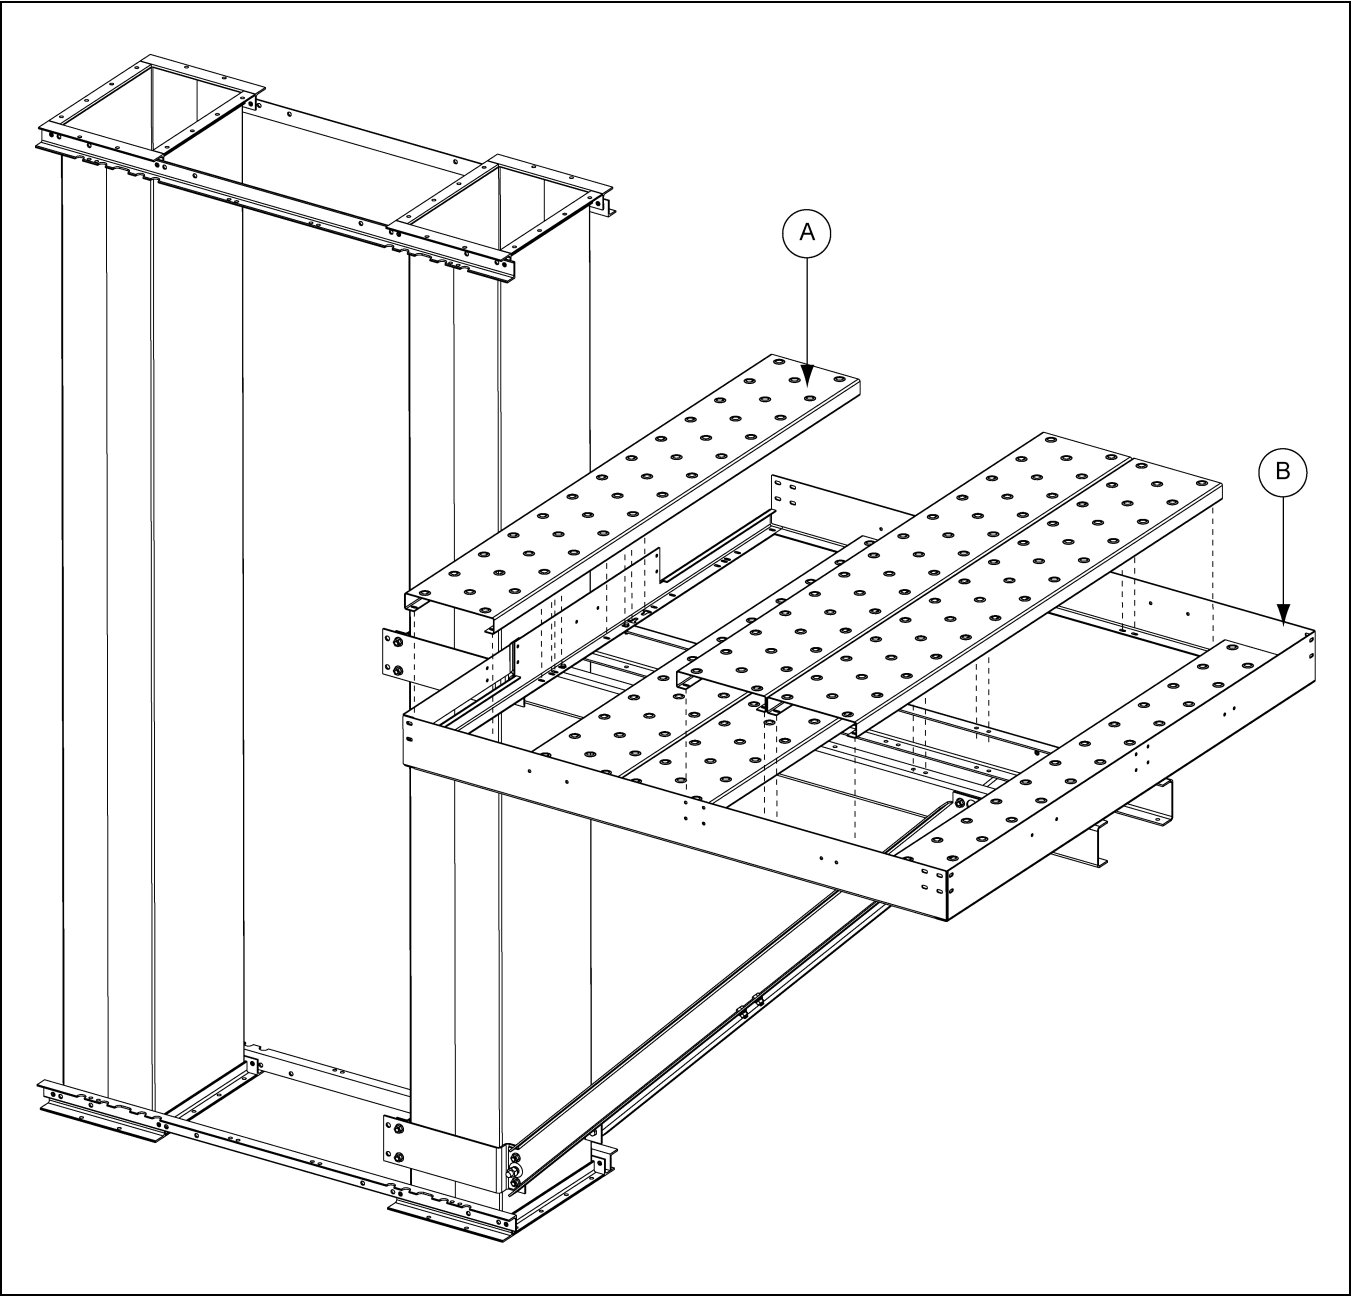
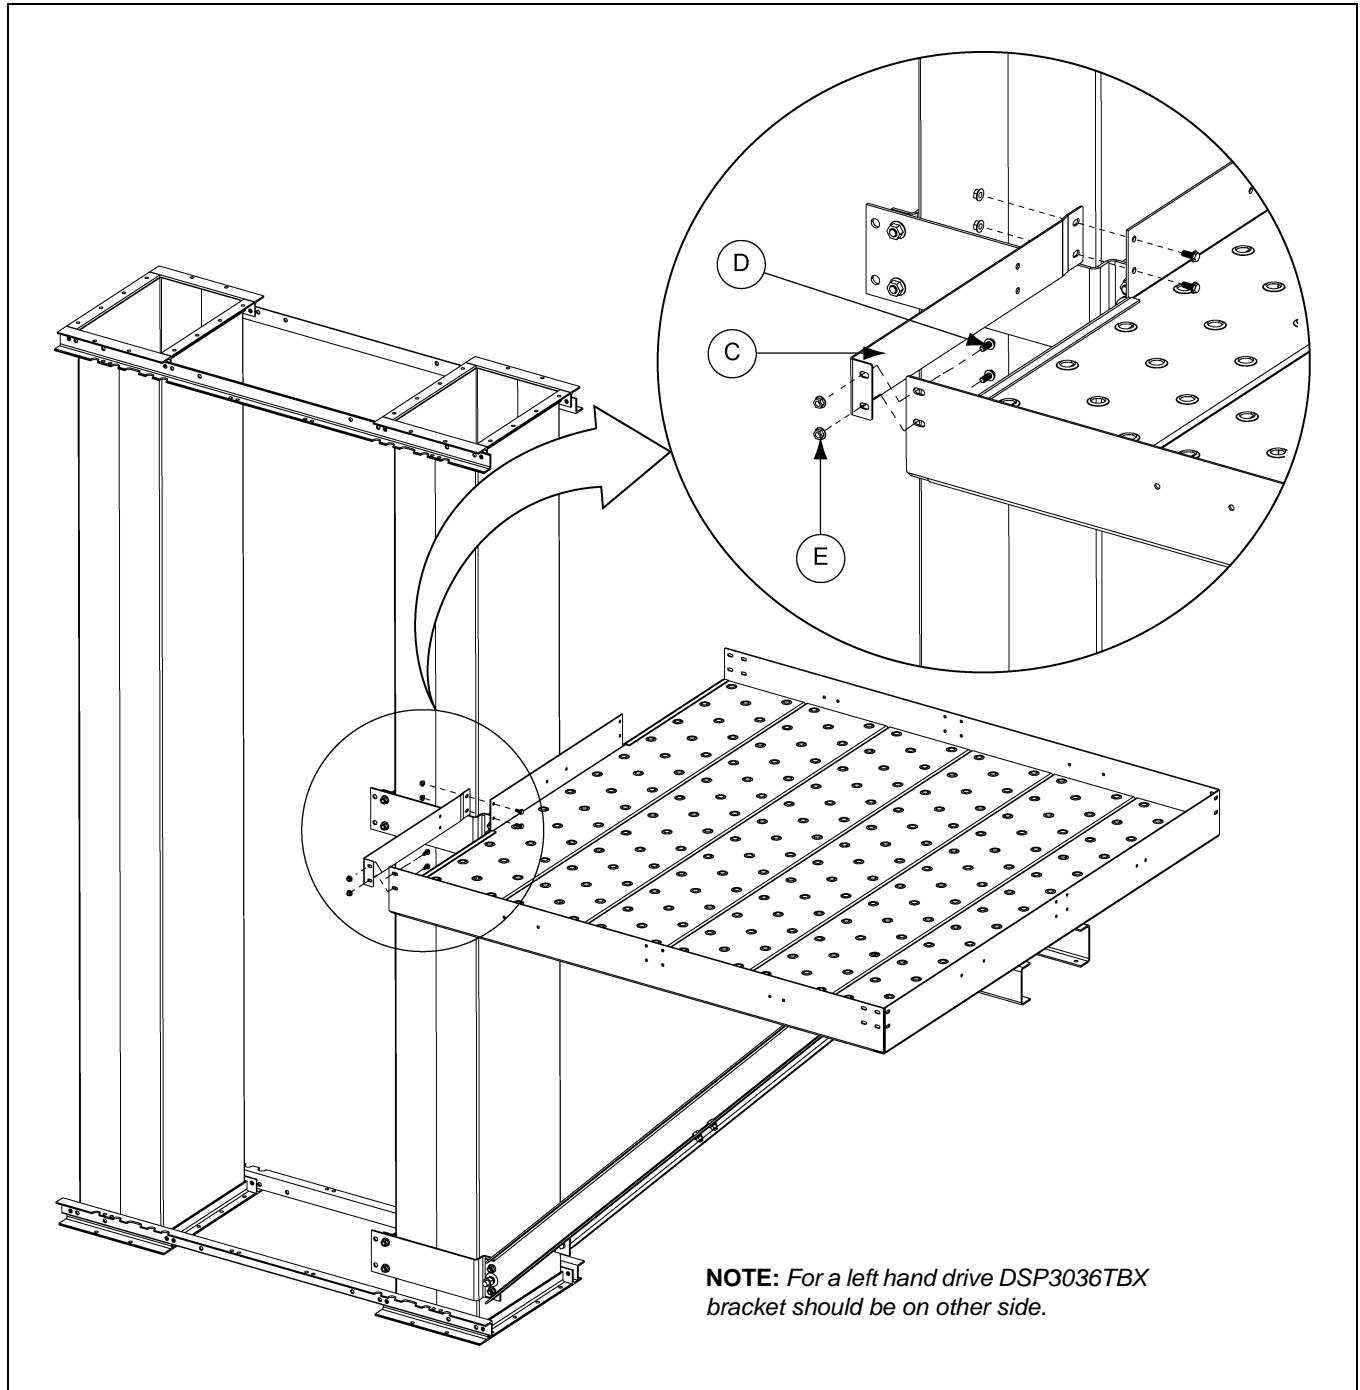

Figure 13F
Figure 13G
Attach the floor deck panels to the support channels. Then attach end toe boards (DSP36000X) (B) to the platform decking (DSP36004) (A) with the 5/16" hardware provided. Add extra toe board plates, after all pieces have been attached and positioned properly, tighten all hardware. (See Figure 13F below and Figure 13G on Page 112.)